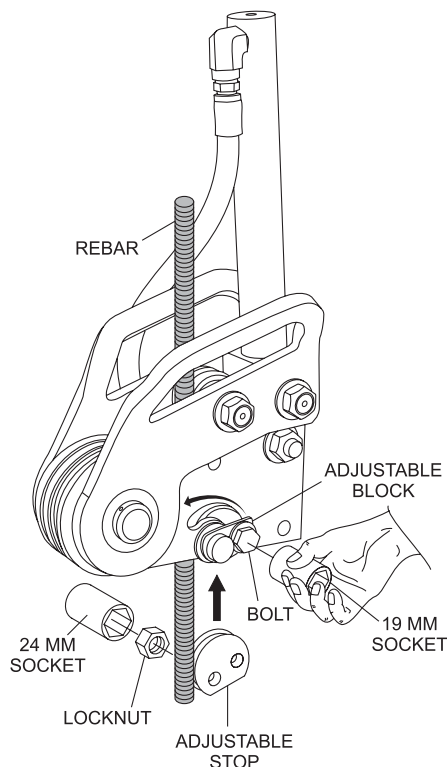

Figure 17. Rebar Adjustment Bolt
1. Use a 19 MM socket to loosen the bolt and a 24 MM socket to loosen the locknut (Figure 17) until the adjustable block can be slid easily in the crescent groove on the side of the rebar. Note: there is no need to remove the hardware.